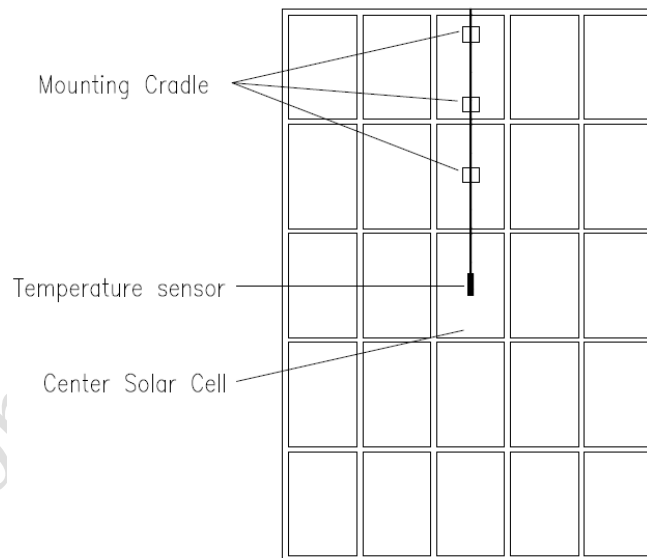

Fig 2.1 – Position of sensor installation
- i) The sensor is to be pasted to the back side of the PV Module in the center position of the panel. Care is to be taken so that the sensor does not fall in between two cells. It should be at the center of the centermost cell of the panel as shown in the fig 2.1